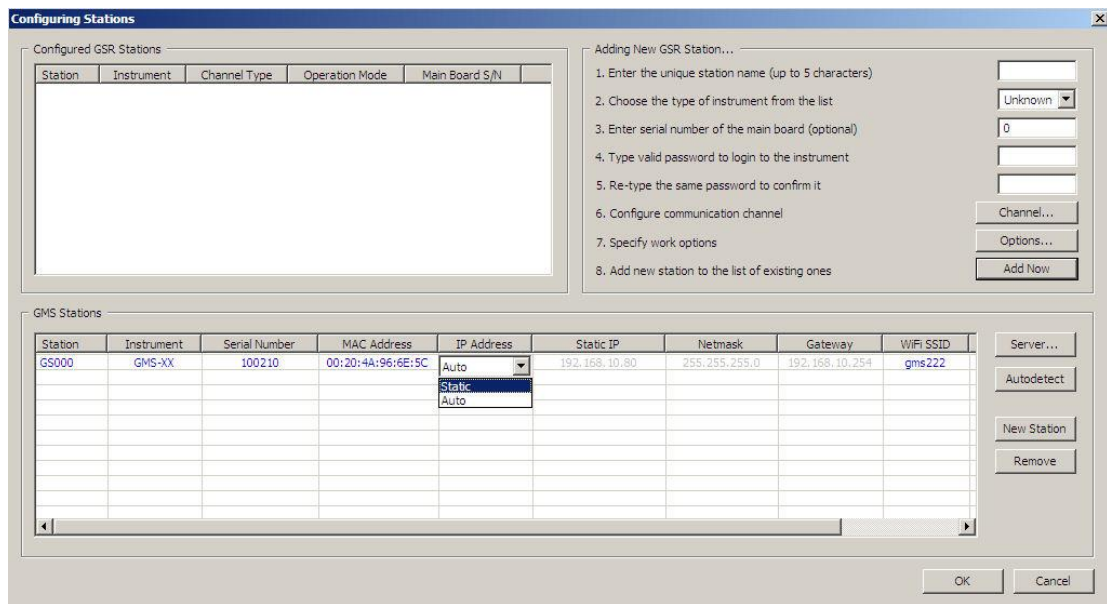

Figure 29. Station configuration
- Open GeoDAS and go to **Settings** → **Configure Stations...** , the window shown in Figure 29 appears.